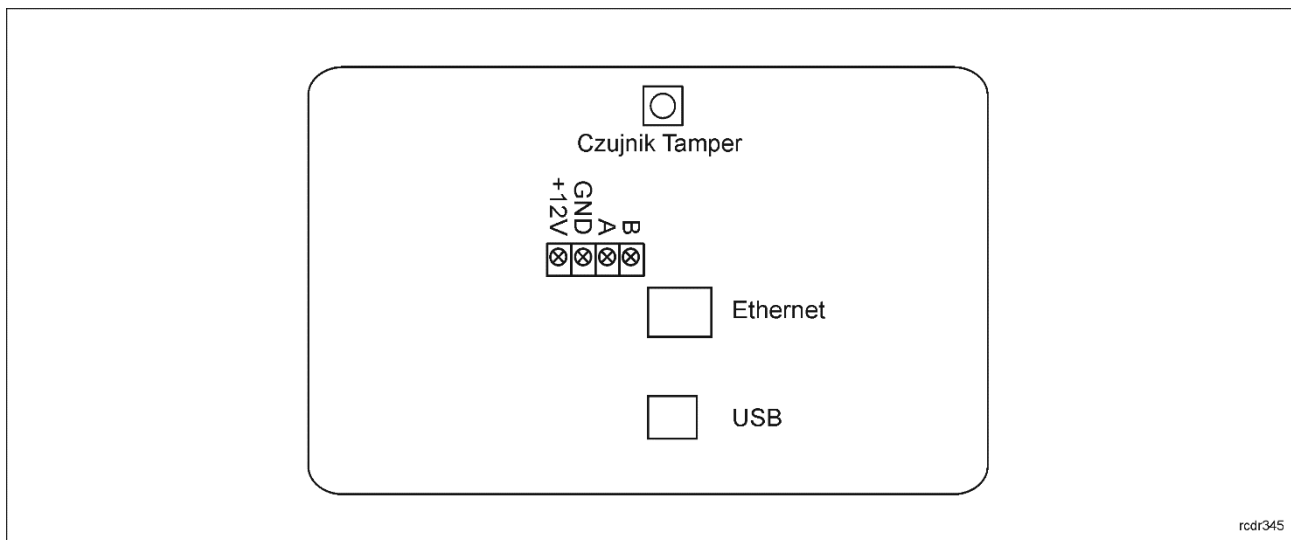
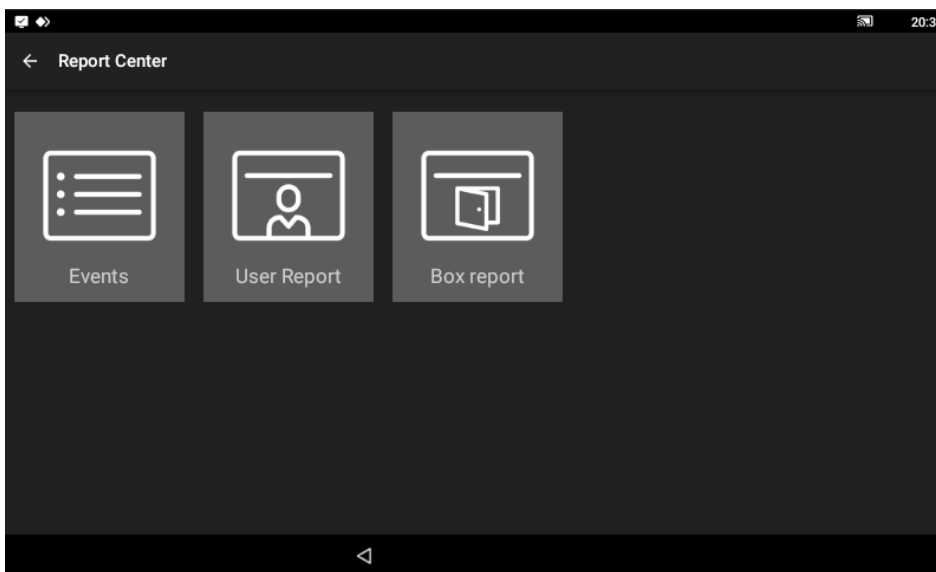

Fig. 3 The inside of the RCC512 panel
Fig. 8 Report Center
- The front panel of the device should be mounted so that the tamper sensor is pressed against the base of the terminal (fig. 3).
After selecting  the Report Center is displayed, shown in Fig. 8. After selecting the Events field, it is possible to view events (e.g. user login, key download, etc.) and after selecting  in the same window, also deleting and exporting events recorded by the cabinet controller. User Report allows you to view and export events related to the selected user. Events from the Report Center can be exported to a flash drive connected to the USB port of the controller (Fig. 3), to the internal memory or sent to the e-mail address defined in the Configuration window (Table 2). The available formats for exported data are Excel (XLS) and PDF.